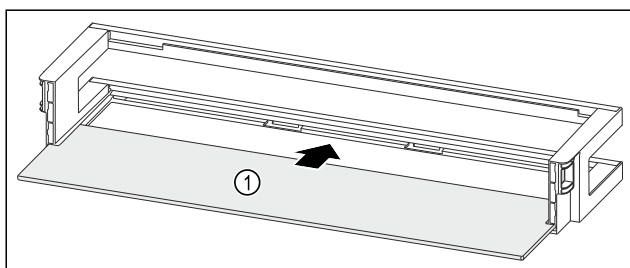

Fig. 241 Door rack with shelf
- Push the shelf Fig. 241 (1) into the side recesses.